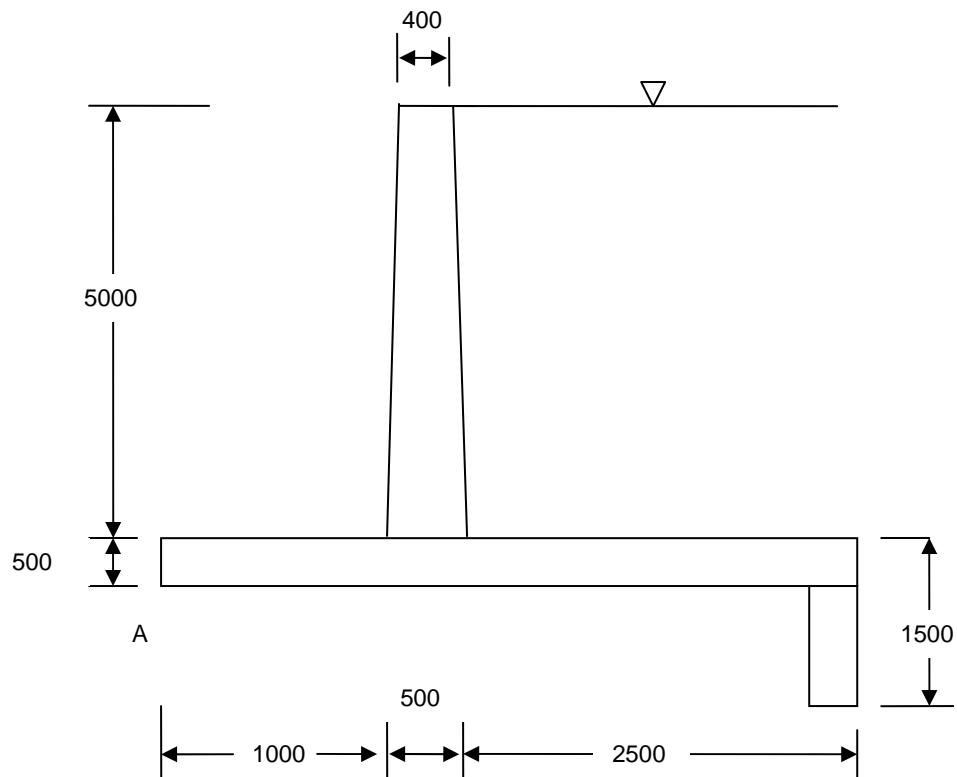

Figure 3 (All dimension in mm)
5. The cantilever retaining wall shown in Figure 3, is used to support soil of the following properties;